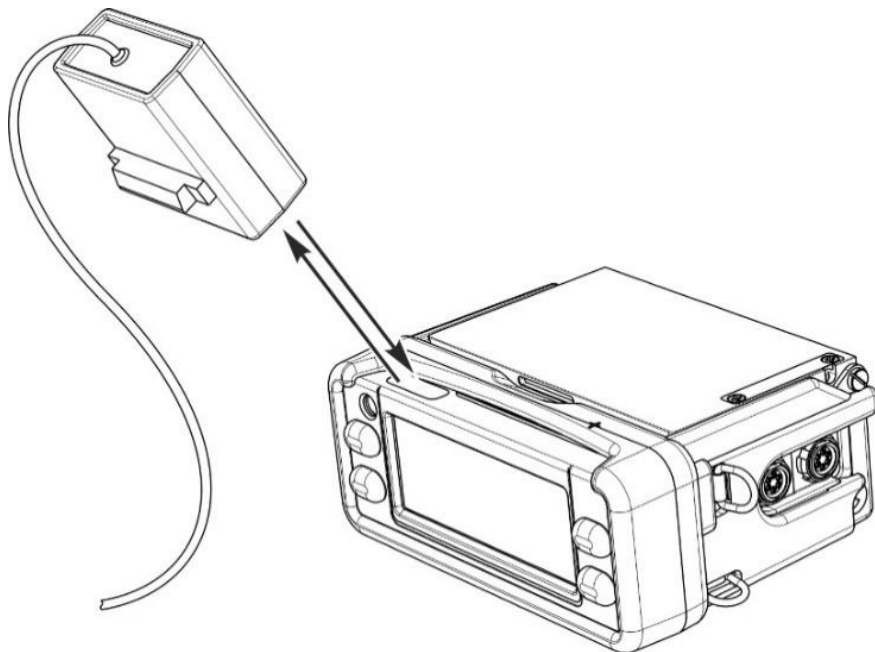

Figure 2.39 – Location of the control unit and the PC's USB/IrDA adapter to transfer measurement results to the PC
- place the control unit so that its infrared port is opposite to the PC's USB/IrDA adapter at a distance of 5 to 30 cm (Figure 2.39).
To read data from the dosimeter's memory turn on the dosimeter's control unit. Select "Data - Read" menu option in the program and place USB/IrDA adapter to the infrared port of the control unit (Figure 2.39 of this OM). The status bar displays the reading process. Upon reading completion there will be a message "Read completed" and the program's main field will display the read data.